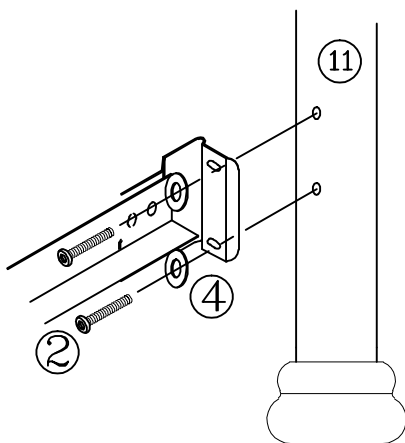

FIGURE 4
- Place a flat metal washer (4) over screws first and then a nut (3) on each screw. Hand tighten, DO NOT TIGHTEN screws all the way.
- Tighten all screws securely using the Allen wrench (5).
- Position footboard panel (11) and align holes in the post with holes in the frame bracket. (SEE FIGURE 4)
- Place flat metal washer (4) on each screw (2). Insert through bracket and into footboard post. Hand tighten, DO NOT TIGHTEN screws all the way.